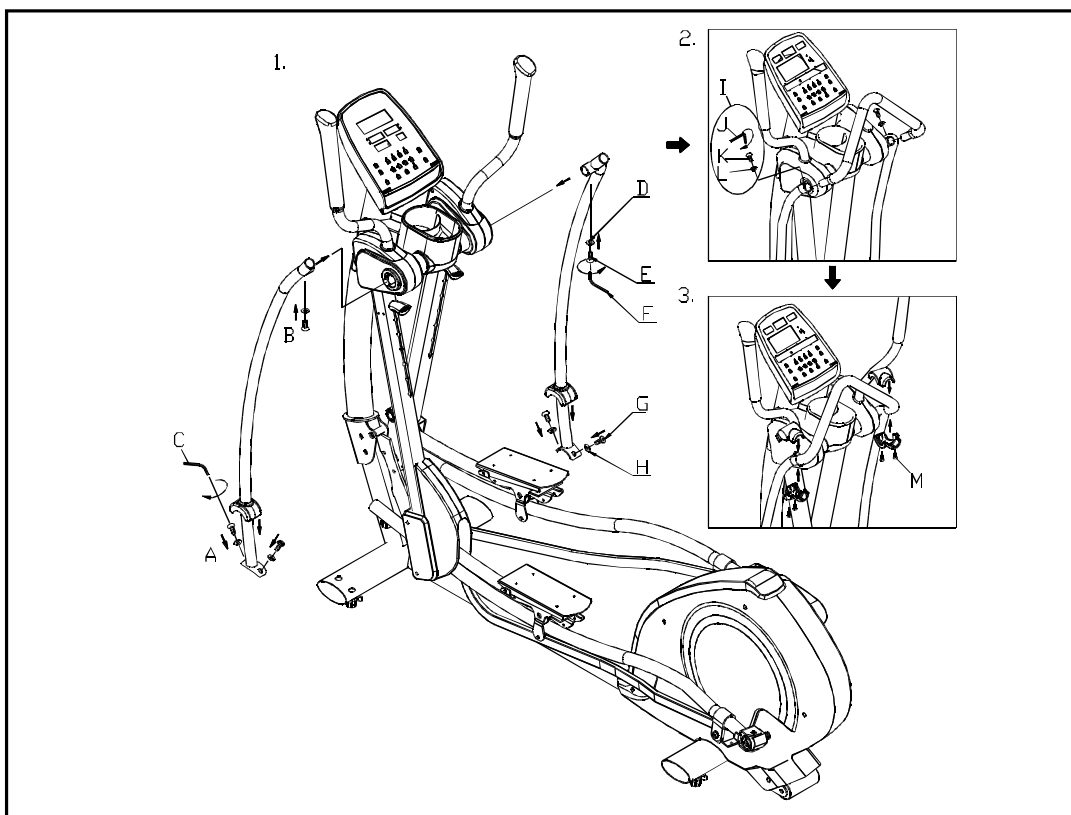

Fig.5
**STEP 8.** (1) Loosely secure bolts A and B on both Side Supports. At this point, do not tighten these bolts.
(2) With hardware shown in illustration I, secure the Stationary Handlebar at both sides. Then Tighten bolts A and B.
(3) Secure the Stationary Handlebar covers with M screws. (See Fig. 5 )